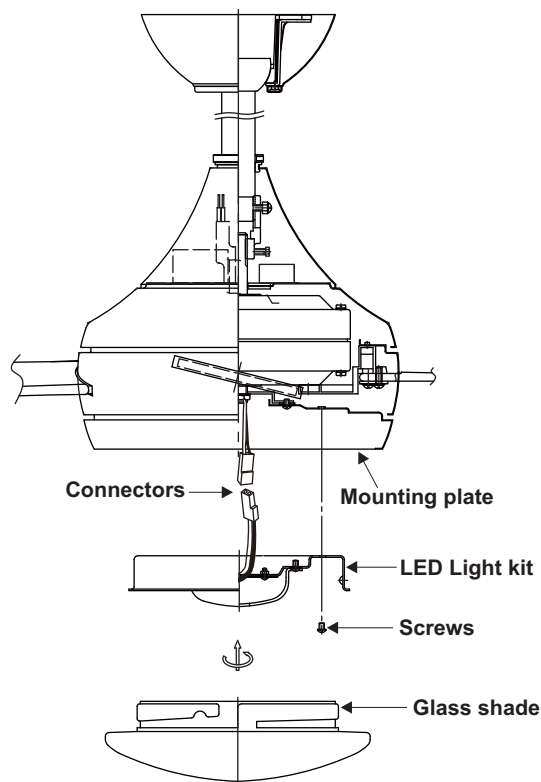

Figure 15
2. Raise and hold the LED light kit close to the mounting plate and proceed to do the wire connections. Make the 2-pin wire connections: (Fig. 15)
3. Place the key holes from the light kit over the 2 screws previously loosened from the mounting plate, turn the light kit until it locks in place at the narrow section of the key holes. Secure by tightening the 2 screws previously loosened and the one previously removed. (Fig. 15)